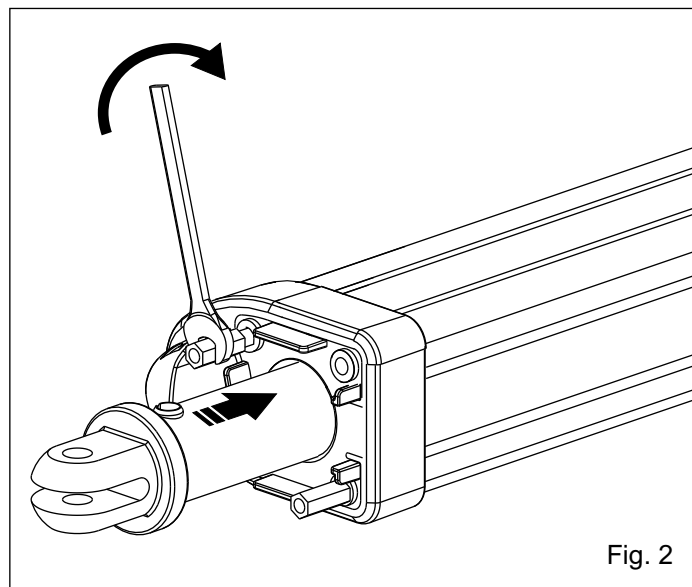

Fig. 2
2. Screw completely the 2 hexagonal nuts which are supplied with the mechanical stop (Fig. 2).